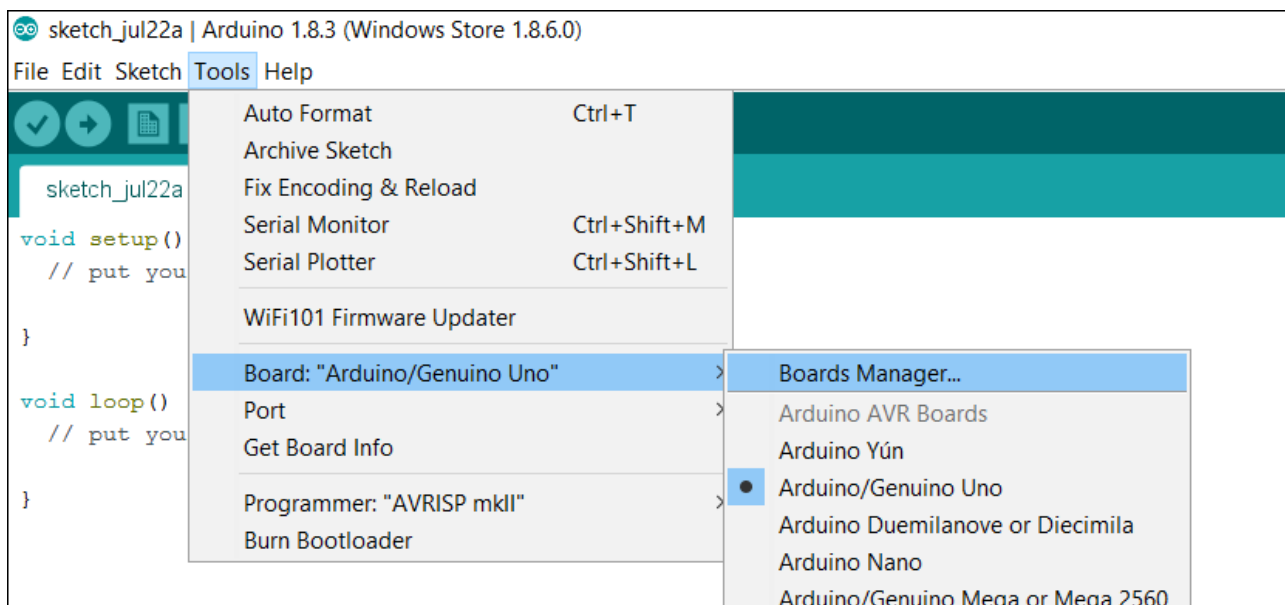

Figure 3-4 Arduino IDE, Boards Manager Menu
2) Now click the menu Tools / Boards / Boards Manager, as shown in Figure 3-4.